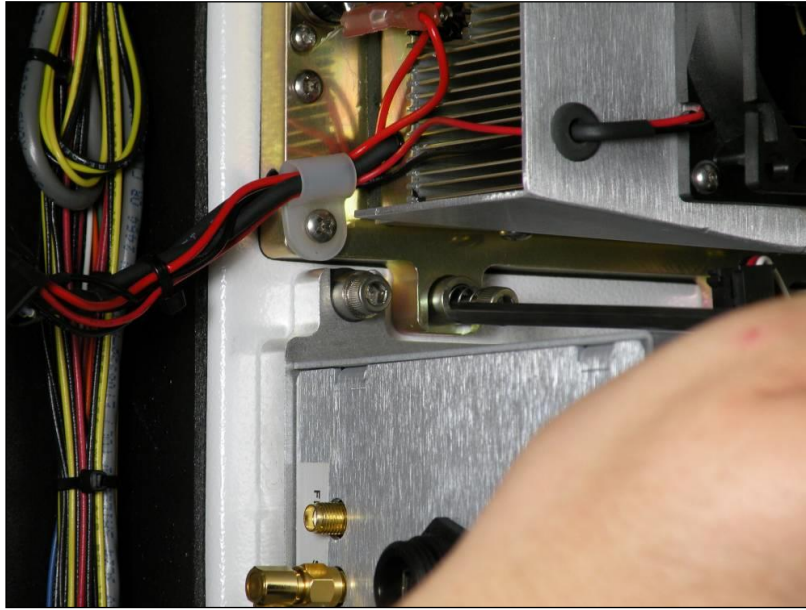

Figure 105. Loosen screws
5. Loosen four screws: 2 on top and 2 on the bottom (Figure 105).